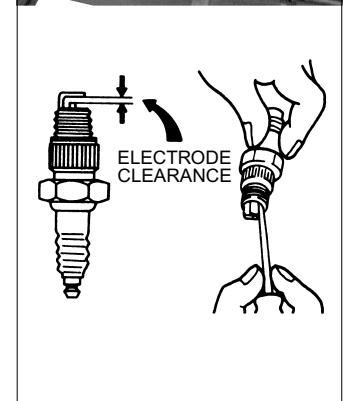

Fig. 25
5. Measure the plug gap with the feeler gauge. Correct as necessary by carefully bending the side electrode (Fig.25).